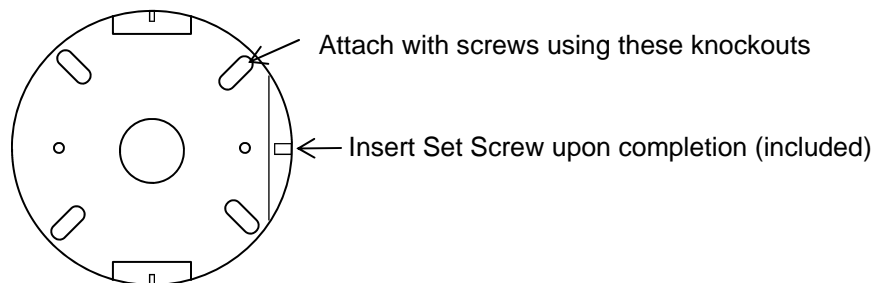

Figure 2
3. Fix back molding to conduit box or similar suitable surface by running screws through at least 2 of the four hole screw locations. See Figure 2. Siren should be mounted on a ceiling or wall so as to prevent debris or moisture from collecting inside sounding unit.